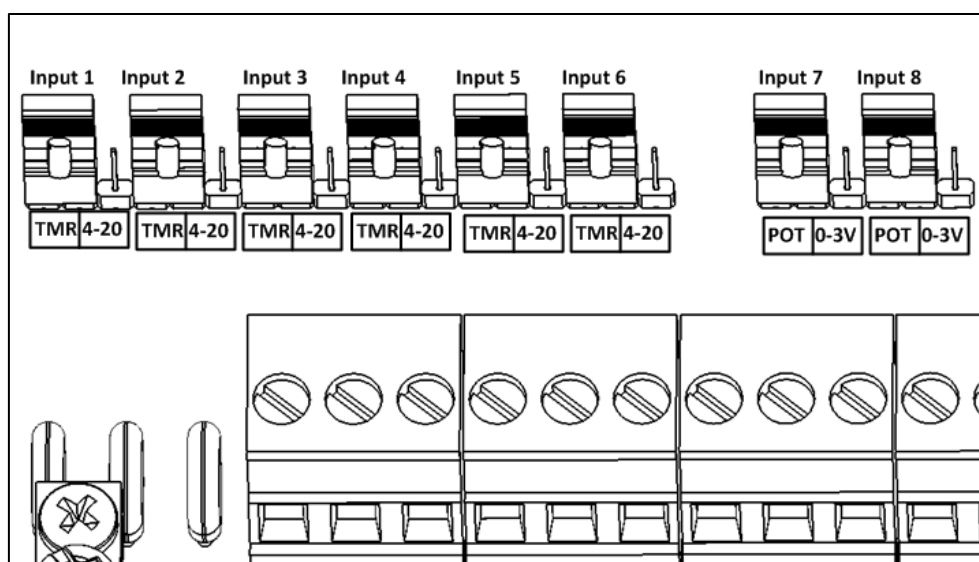

Figure 14: Jumper Positions
2. Place the jumpers in the corresponding position (Figure 14).